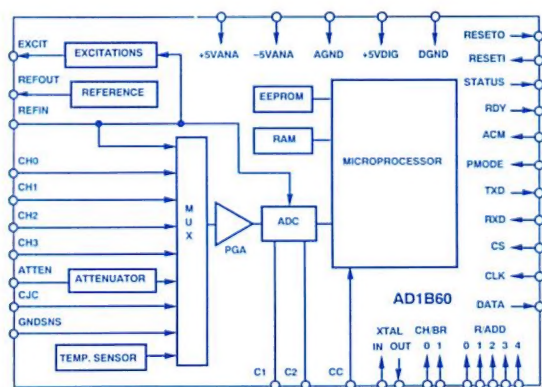

Figure 1. Functional block diagram of the AD1B60.
**What is the AD1B60\*** The AD1B60 is a complete, configurable, sensor-to-digital signal-conditioning subsystem IC for the process industry (Figure 1). Accepting input directly from thermocouples (TCs), RTDs, and volt- or millivolt sources, it performs excitation, compensation, scaling, and linearization; and it outputs data in engineering units over a pair of serial interfaces.